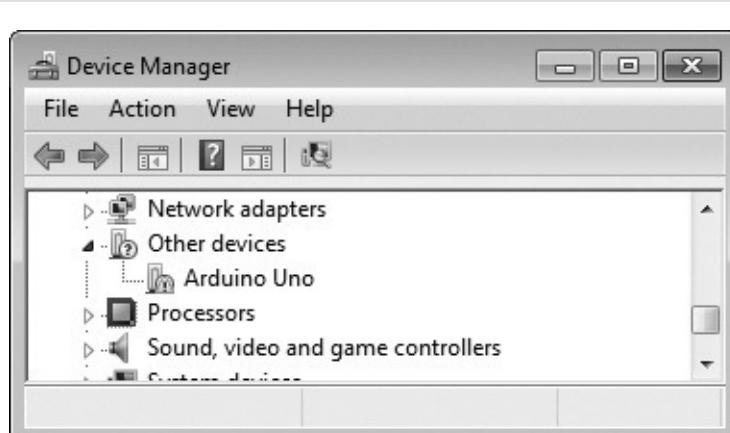

Figure 1-20. The Device Manager
2. Navigate to the Windows Control Panel. Open the Device Manager and scroll down until you see the Arduino, as shown in Figure 1-20.